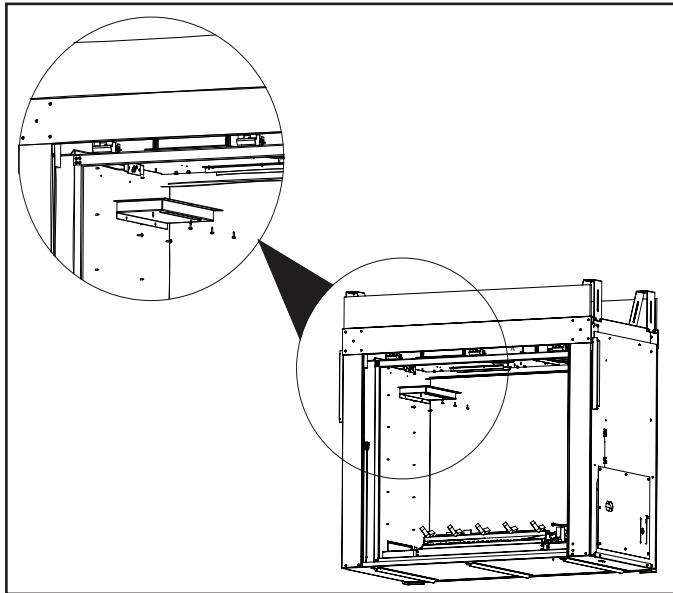

Figure 10.8 Light Box Removal
3. Remove the five (5) screws securing each light box and remove from the unit Figure 10.8
3. The light bulbs are included in the Homeowner's Manual packet. Install the light bulbs into bulb sockets as shown in Figure 10.8. **CAUTION:** Finger prints or the transfer of oil from hands will reduce the lifespan of the bulbs. It is advisable to handle the light bulbs with a clean cloth.